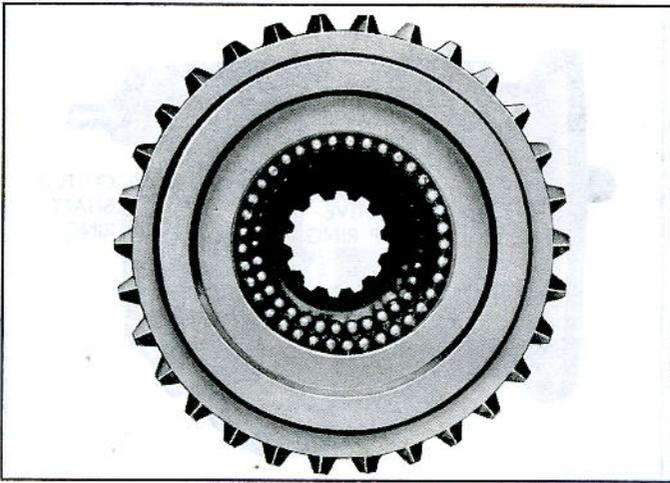

Fig. 7B-15—Mainshaft Roller Bearings Installed in Clutch Gear
bearings from becoming displaced from clutch gear (fig. 7B-15).
- Carefully slide clutch gear onto mainshaft. It is good practice to place the clutch gear on a bench with its pilot bore upward and insert the mainshaft into the clutch gear. This prevents accidentally dislodging the clutch gear roller bearings. This completes assembly of the mainshaft (fig. 7B-16).